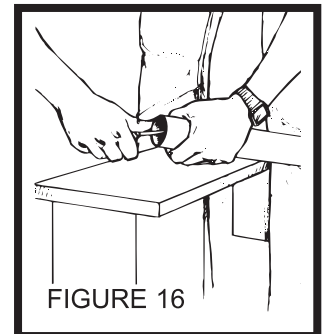

FIGURE 16
9. Refer to Figure 16. Remove burrs from both inside and outside of tubing.